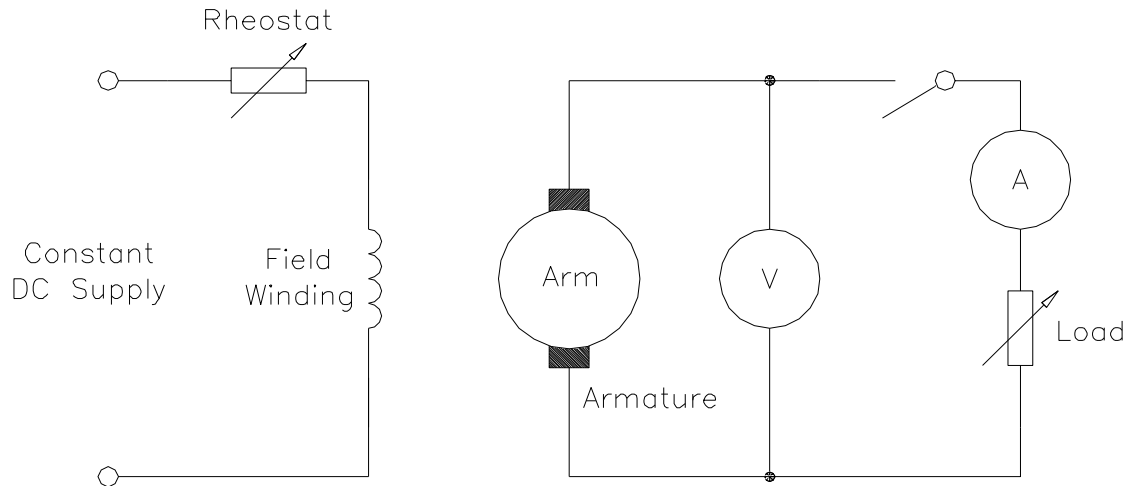

Figure 52. Separately excited generator
58. To ensure that the motor goes back together the right way, 'witness marks' are made at each end of the top of the motor. They are usually made opposite the foot side as shown in Figure 52. Two light centre pop marks, side by side on either side of the drive end cover or frame joint, will locate the drive end cover at the same end and in the same rotation on the frame. A single mark on the non-drive end cover and frame will similarly mark the position of the non-drive end cover. If the motor has been disassembled before, another electrician may have already made witness marks.